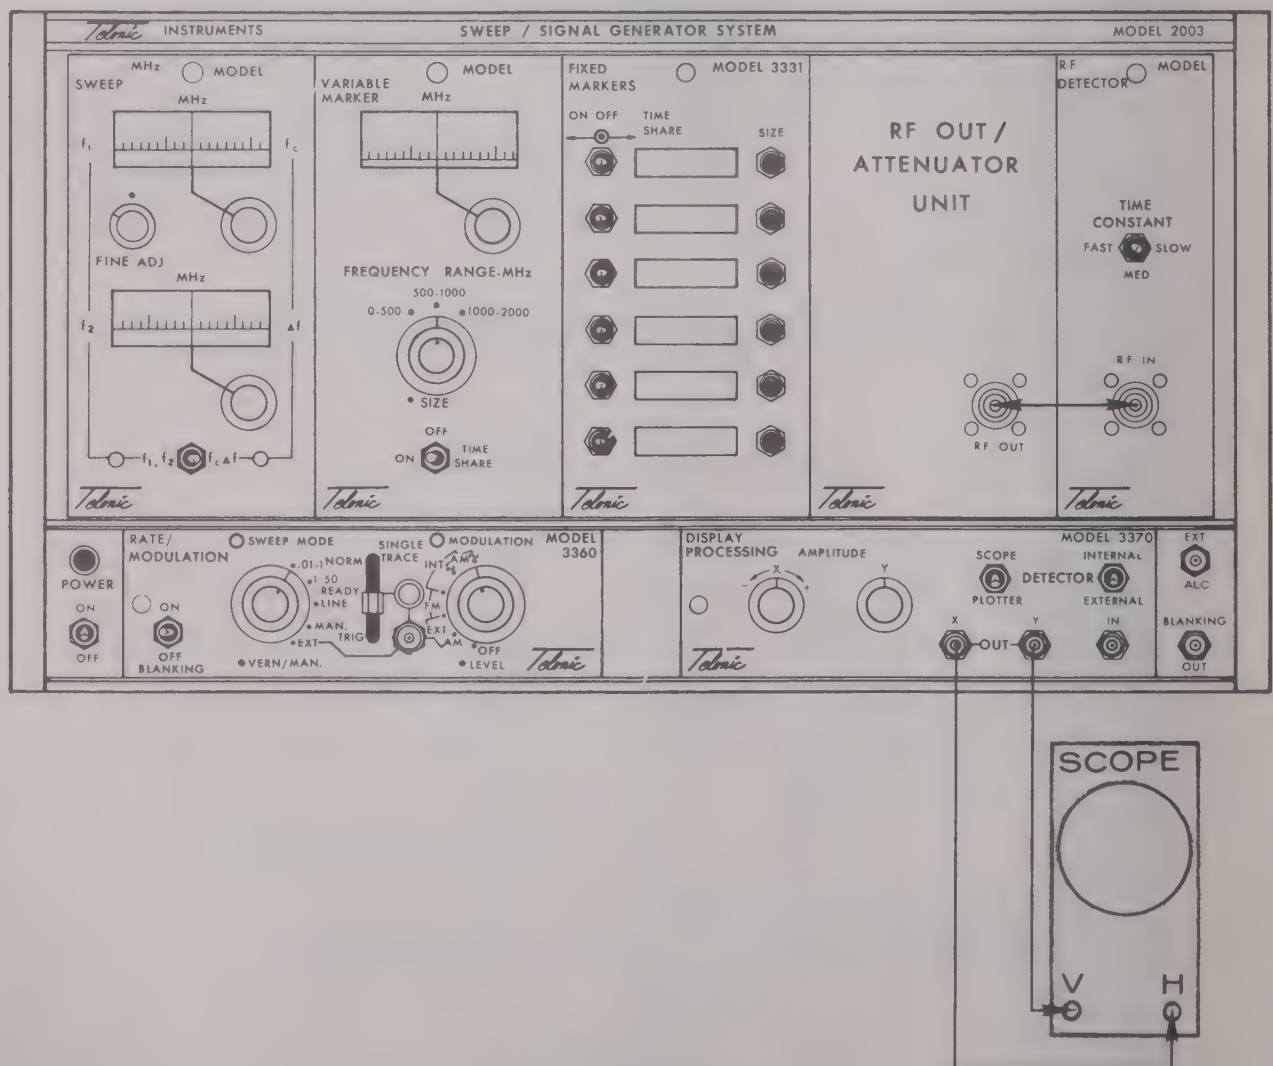

Figure 4-1. Typical Performance Test Connections
- a. Connect the test equipment as shown in figure 4-1.
(1) POWER switch (2003)	ON
(2) BLANKING (3360)	ON
(3) SWEEP MODE (3360)	LINE
(4) SINGLE TRACE (3360)	NORM
(5) MODULATION (3360)	OFF
(6) SCOPE/PLOTTER Switch (3370)	SCOPE
(7) DETECTOR Switch (3370)	INTERNAL
(8) Mode Switch (3305)	f_1/f_2
(9) f_1-f_c Control (3305)	51 MHz